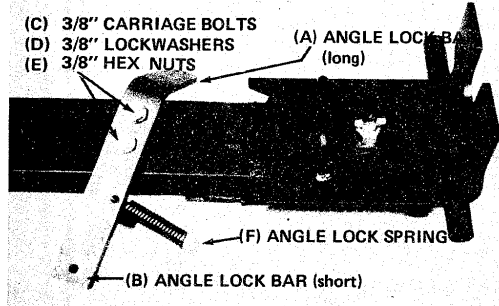

FIGURE 2
3. Assemble hook of angle lock spring into hole of bracket under pivot bolt. Pull lock bars up to extend spring just enough to allow assembly of angle lock bars down through slot in pivot bracket and channel. See Figures 2 and 3.